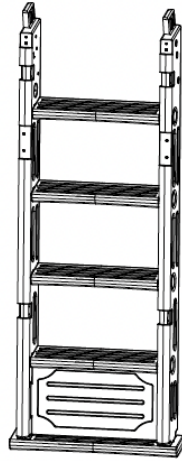

Figure 6
05. Lift the upright column (with treads already installed) upright, and engage the round clip at the bottom of the upright column into the slot of the bottom tread (see Figure 6).